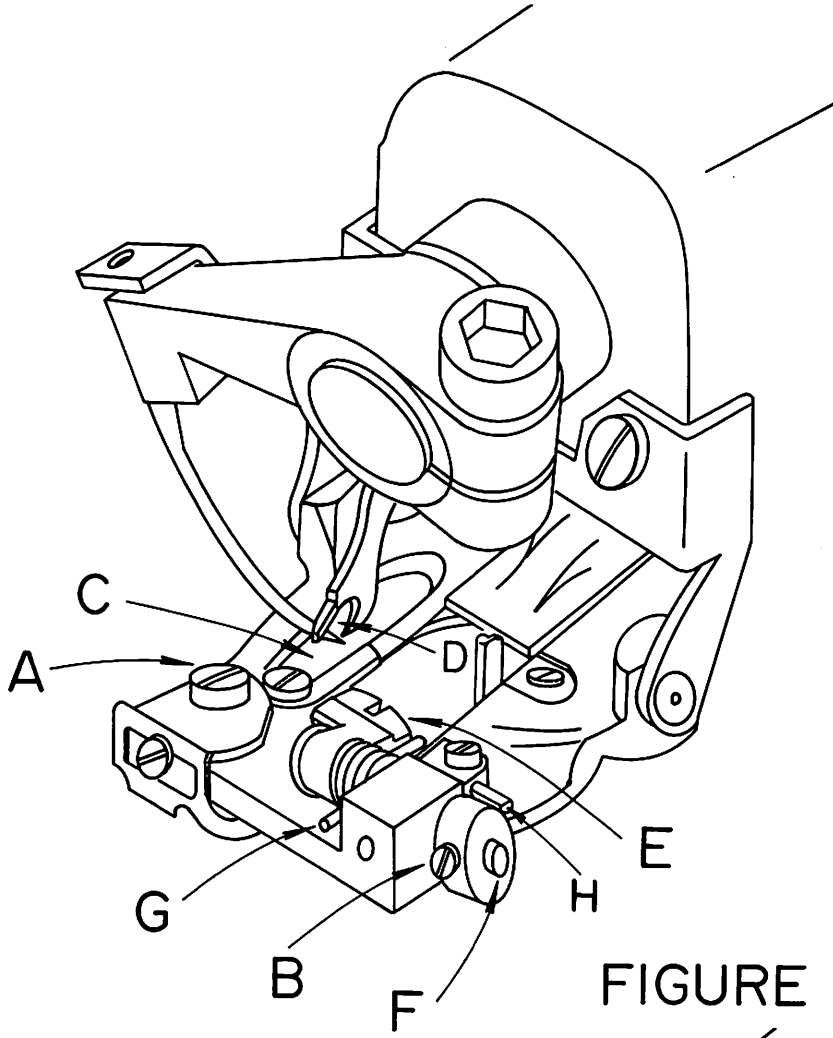

FIGURE 8
6. Once the looper is timed with respect to the needle as outlined in paragraphs 2 thru 5 above, slowly turn the handwheel in a direction away from the operator, until the looper approaches the edge of the looper slot. (Point "C" in Figure 8) in the presserfoot. At this point make sure the small prong of the looper clears this edge. If it does not clear, adjust the eccentric block as outlined in paragraph 5 until the interference is eliminated.
7. Continue turning the handwheel away from the operator until the point of the needle starts to enter the area in between the looper prongs. (Refer to Point "D" in Figure 8). If the needle strikes the crotch of the looper, the looper has generally been set too far forward. Check to see if the looper has been inserted into the clamp as far as it will go. It should be inserted until the shoulder on the looper is stopped on the clamp. If this check is satisfactory, recheck the distance from the center of the looper rod fork pin to the rear face of the looper rod ball. Refer to paragraph 4 and reset if necessary. If neither of the above two measures corrects the problem, it is possible that the needle lever may be set too low and required adjustment.
1. The shoe, (item "E" in Figure 8), also known as a cloth retainer, normally will not require replacement. However, in the event of wear due to the particular fabrics being used, or if the shoe or spring suffers any damage, they may be readily replaced.
2. The first step is to remove the complete front guide assembly by unscrewing the front guide holder attaching screw (item "A" in Figure 8). Next loosen the shoe pin and the shoe eccentric barrel lock screws, (item "B" Figure 8), and slide out the shoe pin (item "F"), shoe and retaining spring (item "G"). Before removing these components it is advisable to note the manner in which the spring is assembled so that it may be reinstalled in the same way.
3. When replacing an old shoe, make sure that the replacement shoe properly fits the pin without binding and without excessive looseness. In the event that the pin has worn and does not fit the new shoe properly, it should be replaced at the same time as the shoe-pin. After replacing the shoe, shoe pin spring into shoe eccentric barrel, re-tighten screws (item "B" Figure 8), and check to insure that the center of the shoe is lined up with the center of the rib. Also insure that the shoe clears both sides of the opening of the presserfoot.
4. **In and out position of shoe** should now be checked. For light fabrics, shoe should be as close to needle as possible. For heavy fabrics with seam, shoe should be set back as far as possible from needle. To move shoe in and out turn eccentric barrel (item "I" Figure 8). After the correct location is established, be sure to tighten screws, (item "B" Figure 8).
- 4A. An additional shoe adjustment is also possible. The height of the shoe can now be controlled, (item "H" in Figure 8). This is a tapered pin and position can be adjusted so that the shoe, whenever required, can be controlled as far as elevation is concerned. By moving the tapered pin in or out the shoe can be kept from pressing down on some fabrics which require little, if any shoe pressure. By having this control, it sometimes will aid in penetration of difficult fabrics. The normal position of the shoe, when set properly on most fabrics, is that the shoe will show movement on the penetration cycle on one ply of fabric.